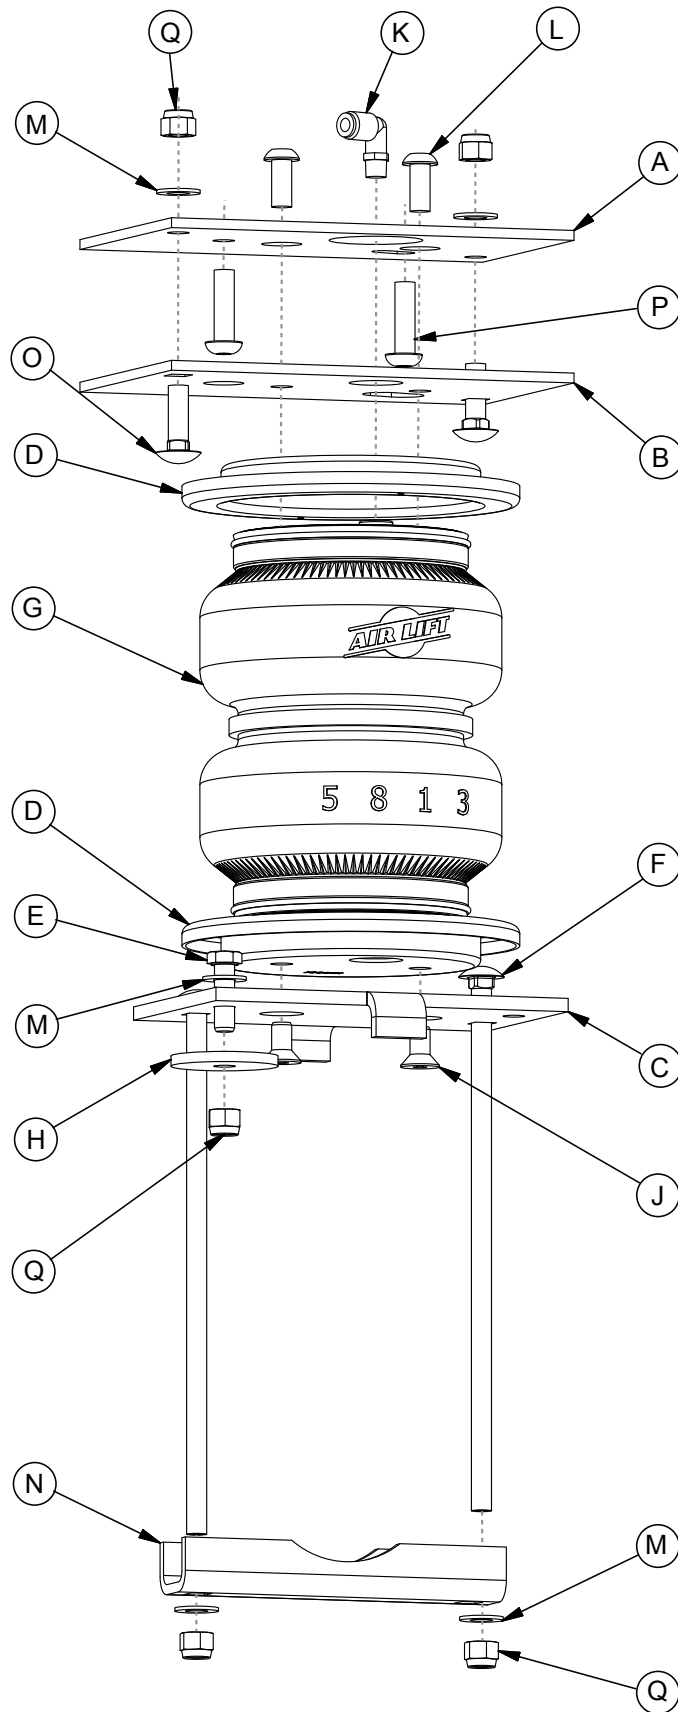

Fig. 1
* These parts are not shown in the System Overview (Fig.1)